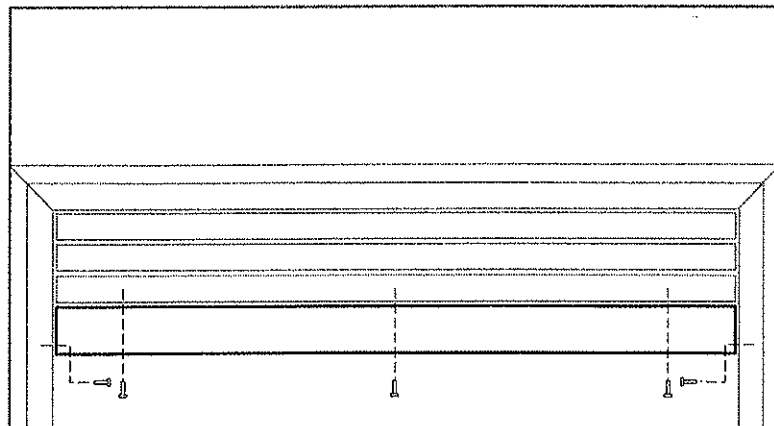

Figure 4. Canopy Installation
1. Open the door and remove the two (2) screws that mount the screen frame on the sides frame.
2. Align the black canopy with the holes in the top frame assembly. Refer to *Figure 4*
3. Install the three (3) screws which attach the canopy to the top frame assembly. Install the two (2) screws which attach to the side frame. Refer to *Figure 4*
4. Tighten all screws, make sure the canopy is level and secure. Install the two (2) screws that mount the screen frame.